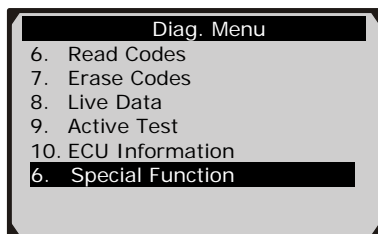

Figure 11.20
- 1) In the **Diagnostic Menu** (Figure 11.20), use the **UP/DOWN** button to select **Special Function** to do the ABS test. The scan tool displays as below.
- 1) In the **Diagnostic Menu** (Figure 11.20), use the **UP/DOWN** button to select **Active Test** to do the actuator test. The scan tool displays as below.